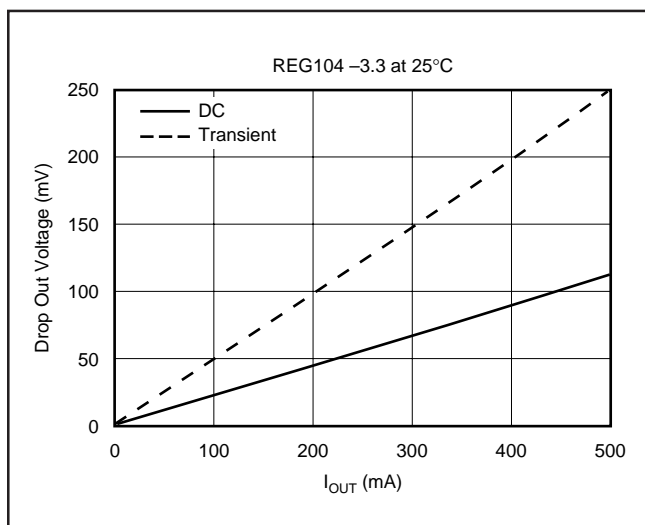

FIGURE 8. Transient and DC Dropout.
The REG104 uses an N-channel DMOS as the *pass* element. When the input voltage is within a few hundred millivolts of the output voltage, the DMOS device behaves like a resistor. Therefore, for low values of  $V_{IN}$  to  $V_{OUT}$ , the regulator's input-to-output resistance is the  $R_{dSON}$  of the DMOS pass element (typically 230m $\Omega$ ). For static (DC) loads, the REG104 will typically maintain regulation down to  $V_{IN}$  to  $V_{OUT}$  voltage drop of 230mV at full rated output current. In Figure 8, the bottom line (DC dropout) shows the minimum  $V_{IN}$  to  $V_{OUT}$  voltage drop required to prevent dropout under DC load conditions.
For large step changes in load current, the REG104 requires a larger voltage drop across it to avoid degraded transient response. The boundary of this *transient dropout* region is shown as the top line in Figure 8. Values of  $V_{IN}$  to  $V_{OUT}$  voltage drop above this line insure normal transient response.